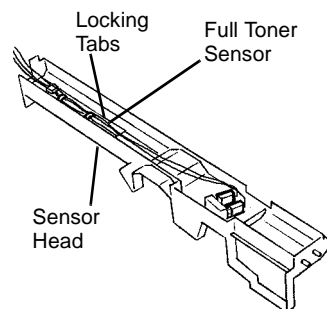

Figure 2 Removing Full Toner Sensor
5. Remove Full Toner Sensor (Figure 2).